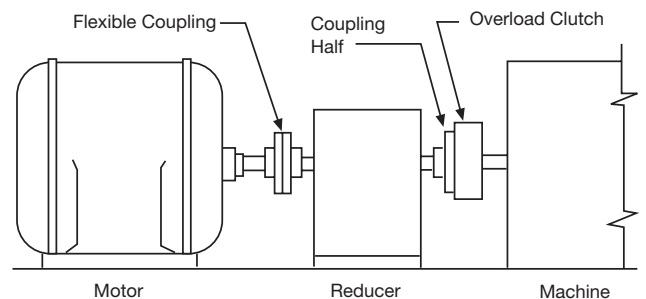

Figure 9
The clutch should always be located as close as possible to the source of an overload condition. Figures 9 through 12 indicate both preferred and not preferred locations for mounting an ORC Series, Model S Overload Release Clutch.
a. Figure 9 shows the preferred location for mounting in a direct drive application. The clutch is mounted on the low speed side of the reducer, and transmits power from its housing, through its rotor to the driven shaft.